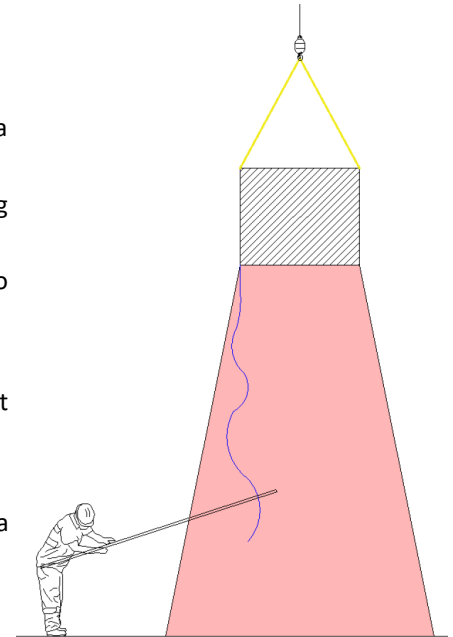

Figure 3. Retrieval of tagline.
- Use a boat hook or similar to retrieve a tagline without standing under a suspended load (see Figure 3)